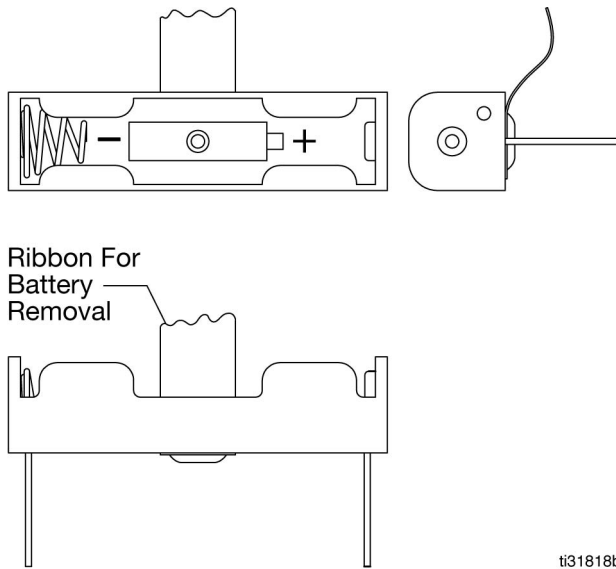

FIG. 4
5. Pull the battery retention ribbon, located under the batteries, up to unseat the batteries (FIG. 4).
NOTE: FIG. 4 identifies the negative and positive sides of the batteries. Be sure that the battery retention ribbon is in place beneath the batteries to assist with future battery removal.